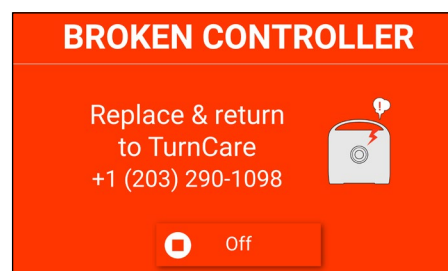

Figure 34. Broken Controller alert screen
1. If the Guardian System 2.8 detects a controller malfunction that is interfering with therapy, it will alert the user. The controller must be removed from service, replaced immediately, and returned to TurnCare. (Fig. 34)